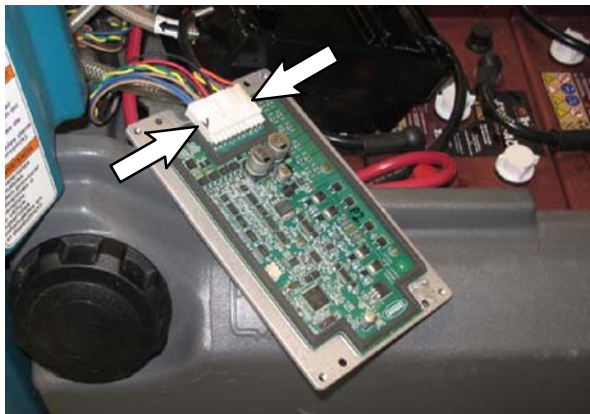

FIG. 5
5. Disconnect the main wire harness from the ec- H20 circuit board assembly. (Fig. 5)
6. Discard the removed ec- H20 circuit board assembly. (Fig. 5)
7. Connect the main wire harness to the new ec- H20 circuit board assembly (1). (Fig. 5)